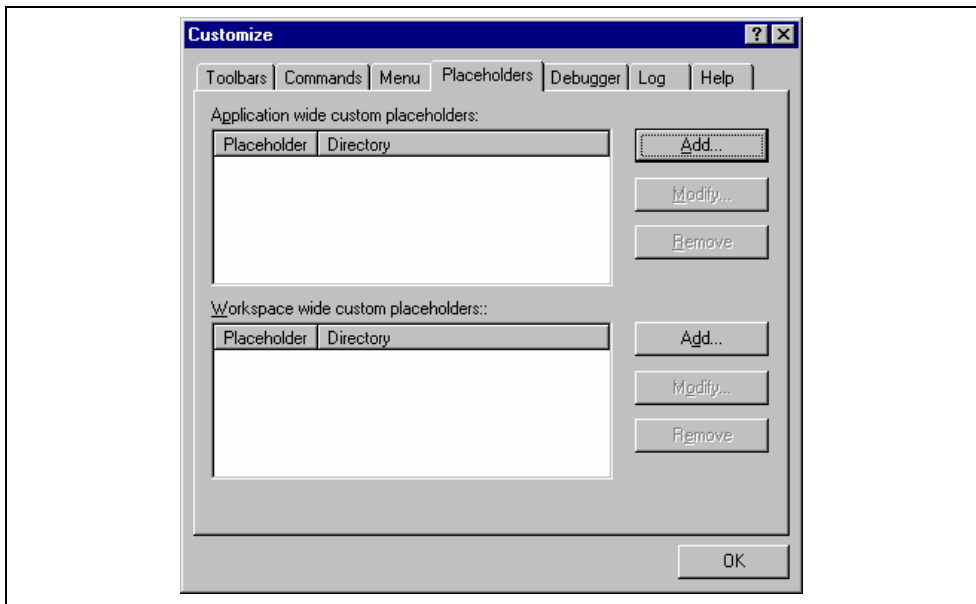

Figure 6.14: Customize Dialog Placeholder Tab
1. Select [**T**ools->**C**ustomize...]. The dialog shown in figure 6.1 will be displayed. Select the “Placeholders” tab (figure 6.14).